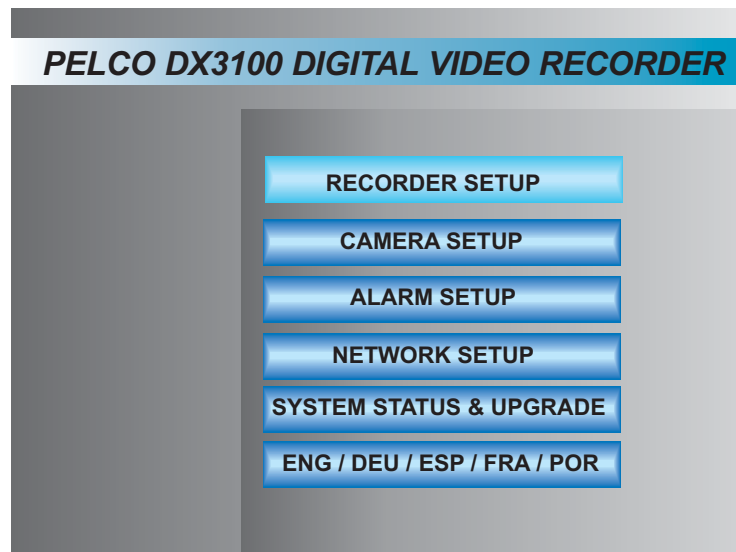

Figure 8. Setup Menu Screen
3. Use the channel buttons to enter the four-digit password. The setup menu screen appears (refer to Figure 8).